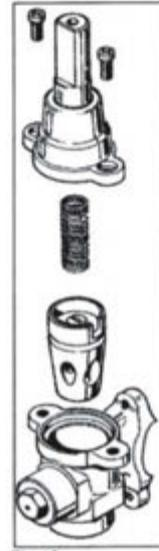

Fig.10
- 1) Dismantle the main part of the tap by unscrewing the two screws that can be found on the bar of the tap itself. (Fig. 10)